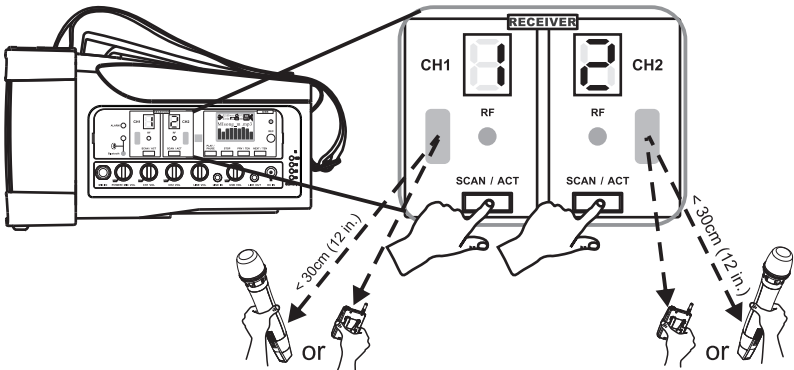

Fig. 6
- (3) Setting ID code:
(F) ACT Synchronization (Sync) between Receiver and Transmitter Channels, Fig. 6:
- (1) Press and release SCAN/ACT button, the current channel blinks and is ready for ACT synchronization.
- (2) Power on handheld or bodypack transmitter. Bring the transmitter sync port (red indicator) within 30 cm (12-inch) of CH 1 or CH 2 receiver sync port.
- (3) Once ACT synchronization is done, the channel screen will stop blinking and RF indicator glows green to indicate a successful RF link.
- (4) To cancel an accidental activation of ACT function, just press SCAN/ACT button again.